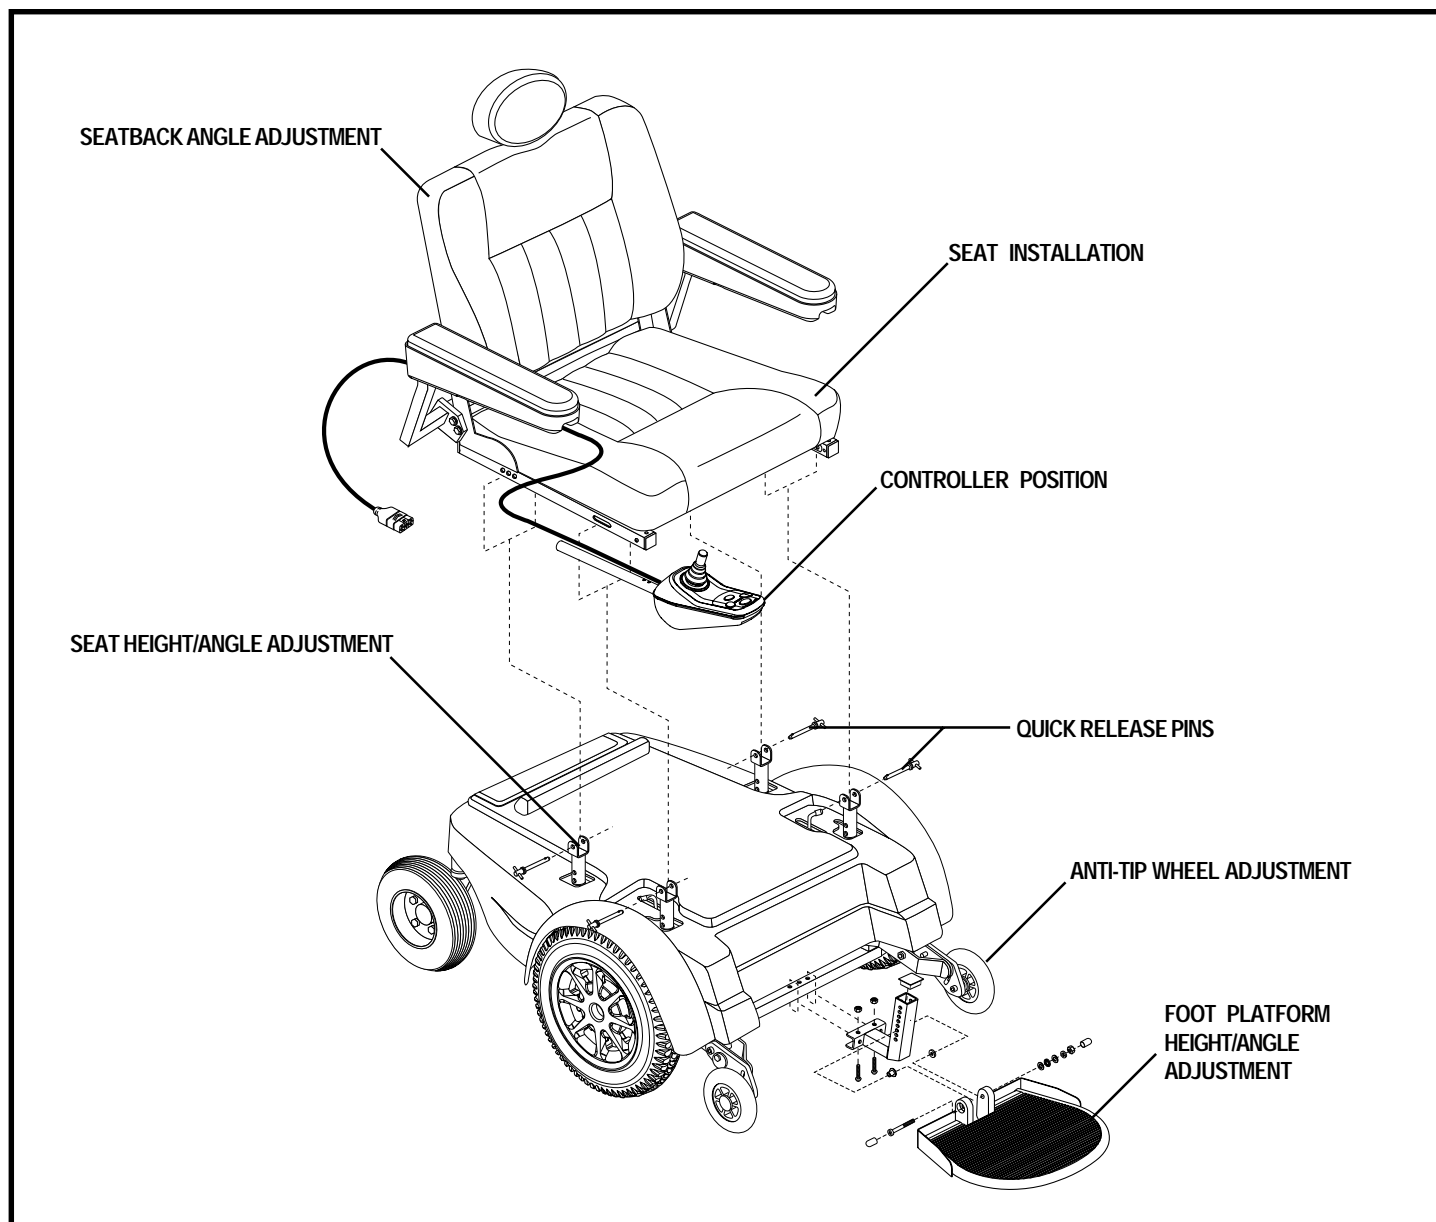

Figure 10. Jazzy 1170XL Plus Series Assembly View
Your power chair may require some assembly either before initial use or after transportation. It may also require disassembly to make some comfort adjustments. Figure 10 details those parts of the power chair that are designed to be disassembled and assembled by an end user or by a qualified caregiver before using the product or making comfort adjustments.
2. Remove the quick release pins from each of the four seat pin receivers. See figure 10.